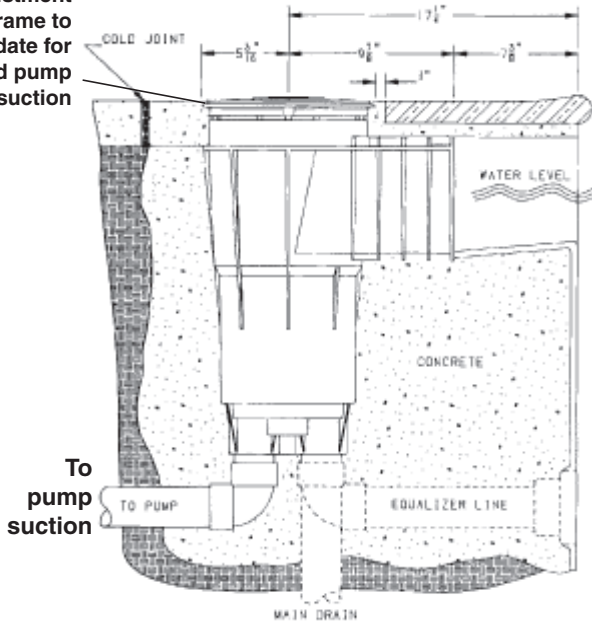

Figure 2: Section View
Line Connections and Testing: Connect pump inlet line to rear port in bottom manifold (Figure 2). Skimmer is ABS plastic; manifold connections are 1-1/2 or 2" threaded or 1-1/2" slip. For threaded connections, do not use pipe dope; to seal joint use threaded seal tape for slip connections, apply PVC primer to PVC pipe only. Then apply ABS to PVC solvent cement to both pipe and slip connections. Consult dealer for correct solvent cement for pipe used. Assemble joint per cement manufacturer's instructions. Allow at least three (3) hours before pressure testing.